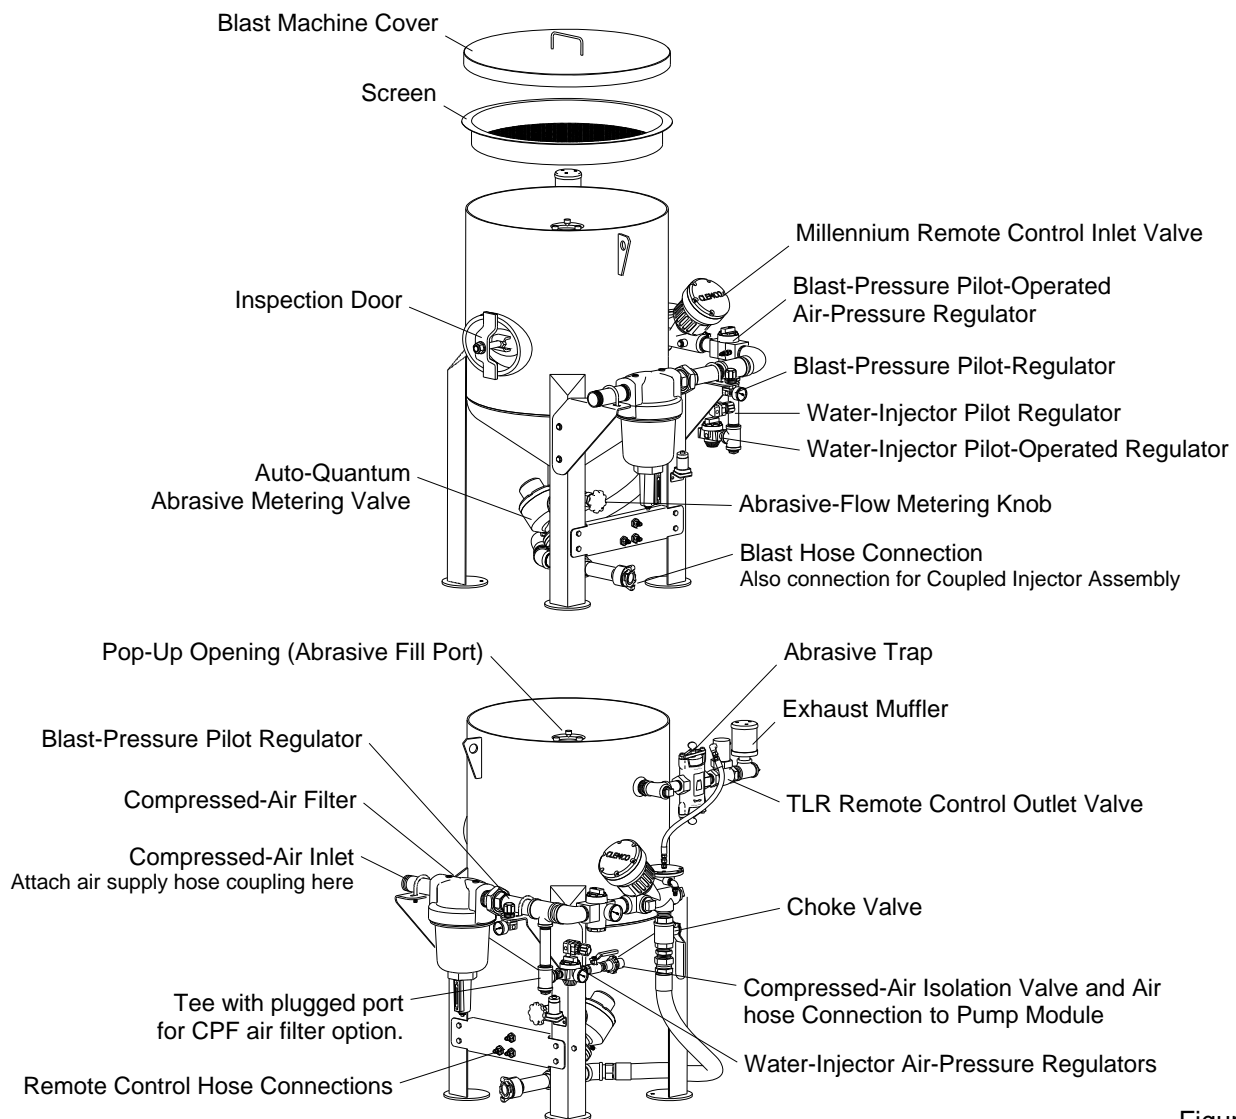

Figure 2
1.6.1 Blast machine Components are shown in Figure 2